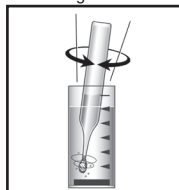

Figure 2
3. Dissolve the crystals on the tip of the ampoule in the sample by stirring the sample briefly with the ampoule tip (fig. 2).